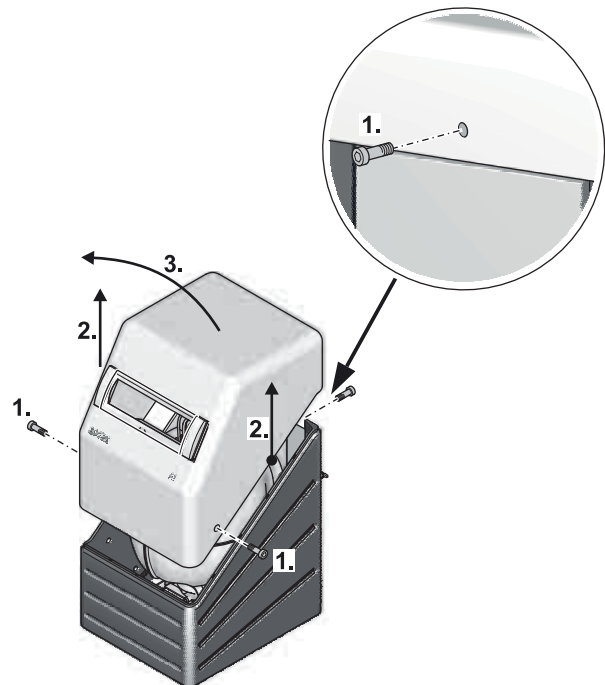

Fig. 9-1 Remove the sound insulation hood.
- Remove the sound insulation hood (see fig. 9-1).